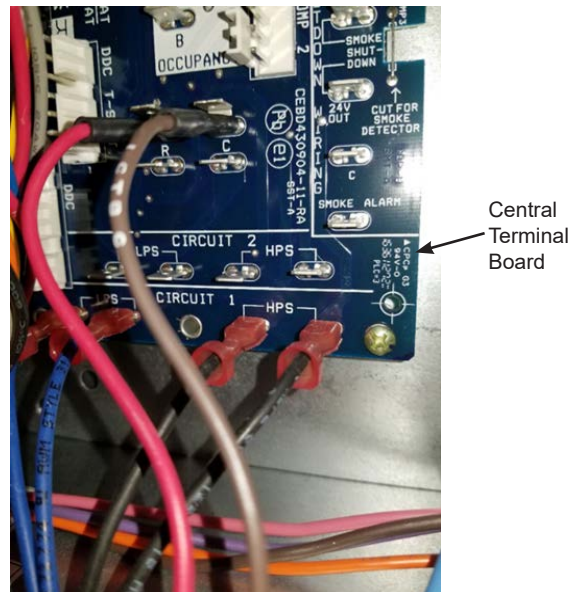

Figure 11 – Connect Red and Brown Wires to Central Terminal Board
Step 15: Connect the red and brown wires from the Jade controller harness to the CTB. See Figures 11 and 18. The red wire connects to "R" on the CTB, and the brown wire connects to "C".